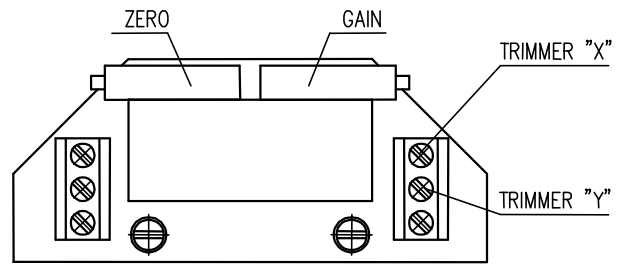

Fig. 7
EPV – 3-wire version (Fig. 7,7a)
- Adjust the resistive transmitter according to the previous chapter. The resistance is to be metered on the terminals X-Y (Fig. 7,7a). The used transmitter resistance is 2000W or 100 W.
- Turn the adjusting trimmer ZERO (Fig. 7,7a) to adjust the output current signal rate measured on the terminals 81-82 to 0 mA or 4mA.
- Turn the adjusting trimmer GAIN (Fig. 7,7a) to adjust the output current signal rate measured on the terminals 81-82 to 20mA or 5 mA..